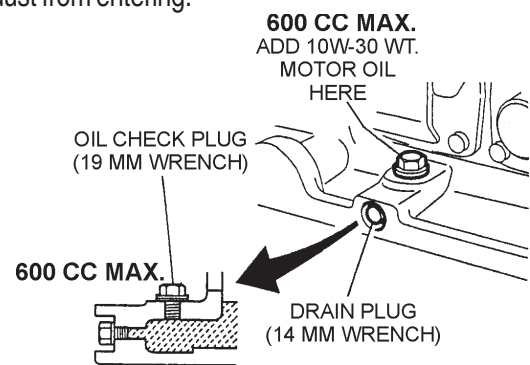

Figure 31. Vibrator Oil Drain and Check Plugs
- In every 100 hours of operation, with the machine positioned horizontally, use a 3/4" (19 mm) wrench and remove vibrator oil level check plug (Figure 31). Visually inspect and see if vibrator oil level is up to filler port. Use engine oil 10W-30 for lubrication. Capacity of the lubrication oil is 20.3 fl.oz (600cc). Be sure to clean area around check hole to prevent dirt and dust from entering.
- Using a 14 mm wrench remove the vibrator oil drain plug (Figure 31) from the vibrating plate assembly.
- After hydraulic oil has been completely drained from machine, fill with 10W-30 motor oil to the appropriate safe operating level (Figure 31).